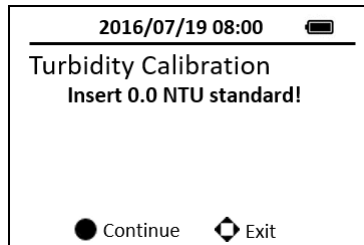

Figure 13. Turbidity Calibration-1
4. Press the **CAL** on the main page, then choose the Turbidity calibration and press the **OK** button to launch the Turbidity calibration page. (Figure 13)